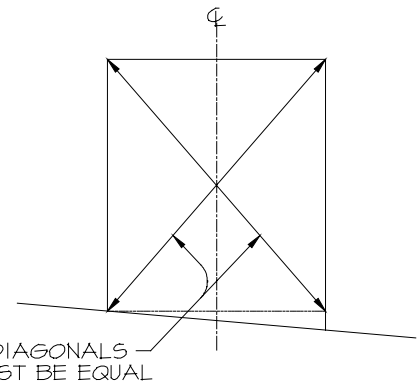

FIG. 1
- **If measurements do not coincide**, see Figures 1, 2, and 3. These figures show how some tolerance for a sloped floor (Figure 1), a badly aligned wall (Figure 2), or a crooked jamb (Figure 3) might be accommodated.